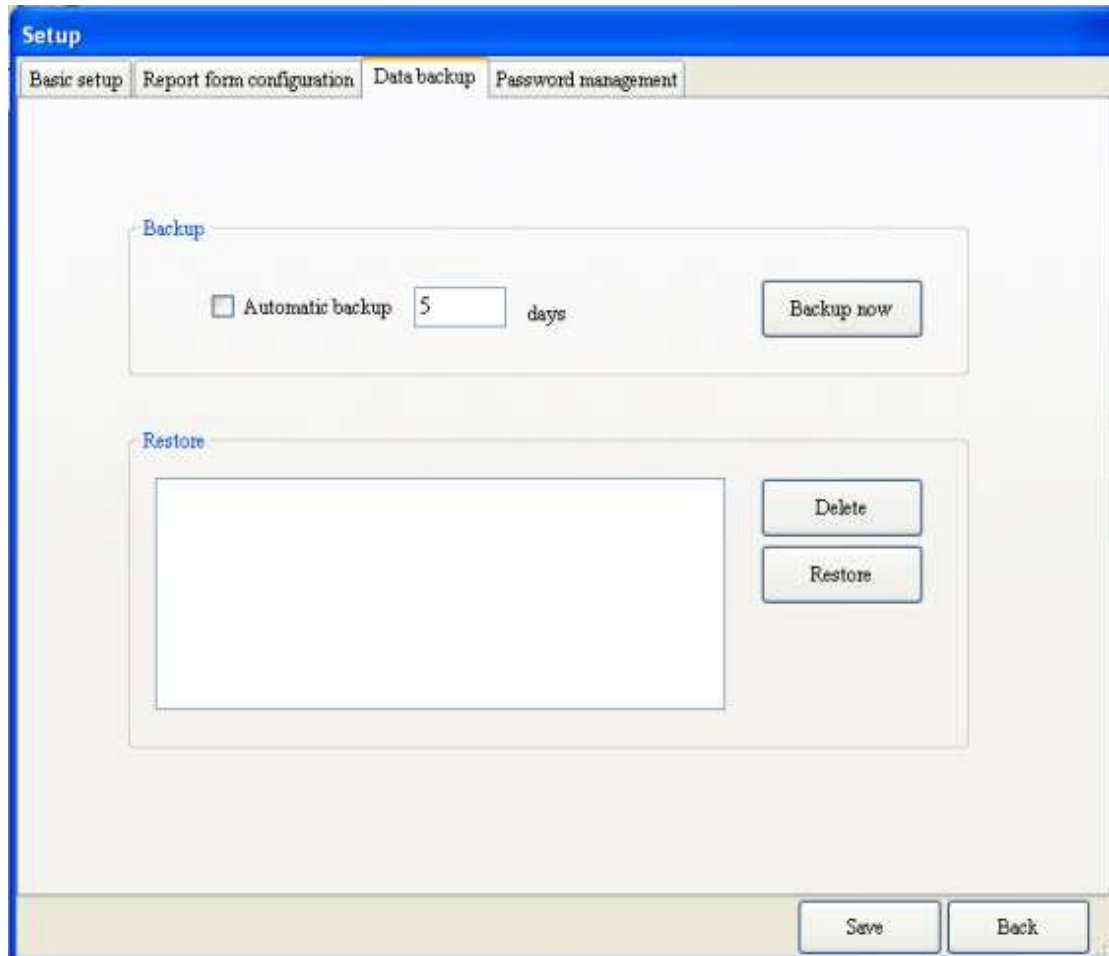

Fig. 5-1-4
2. Data backup: Click on “Data Backup” on the Setting window, popup the window as Fig. 5-1-4.